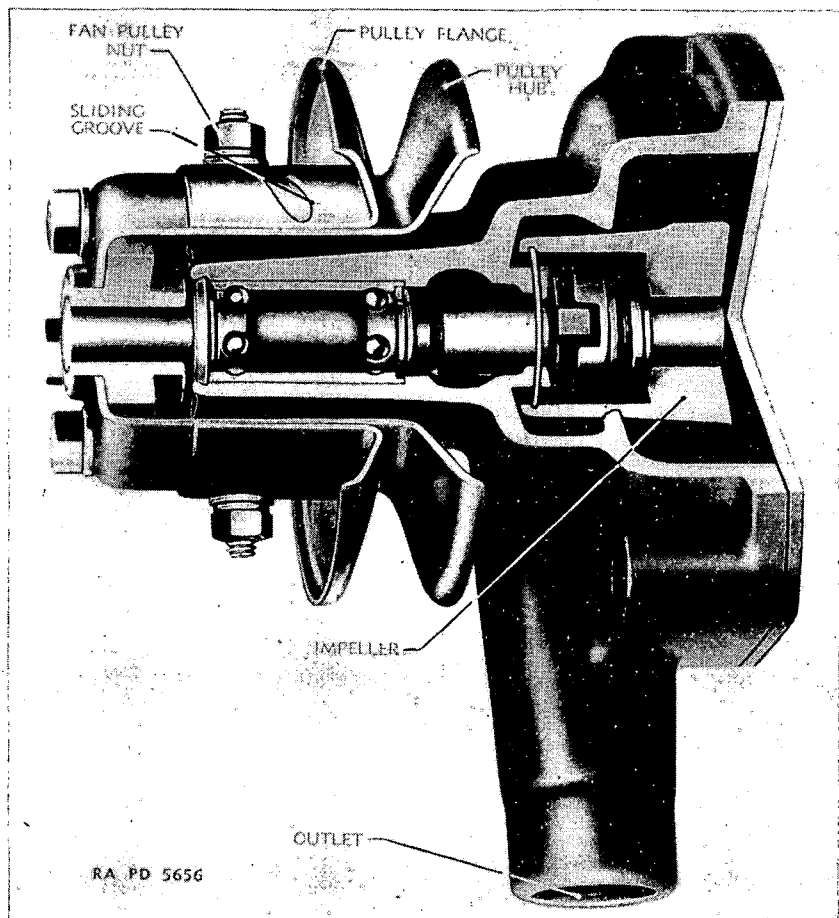
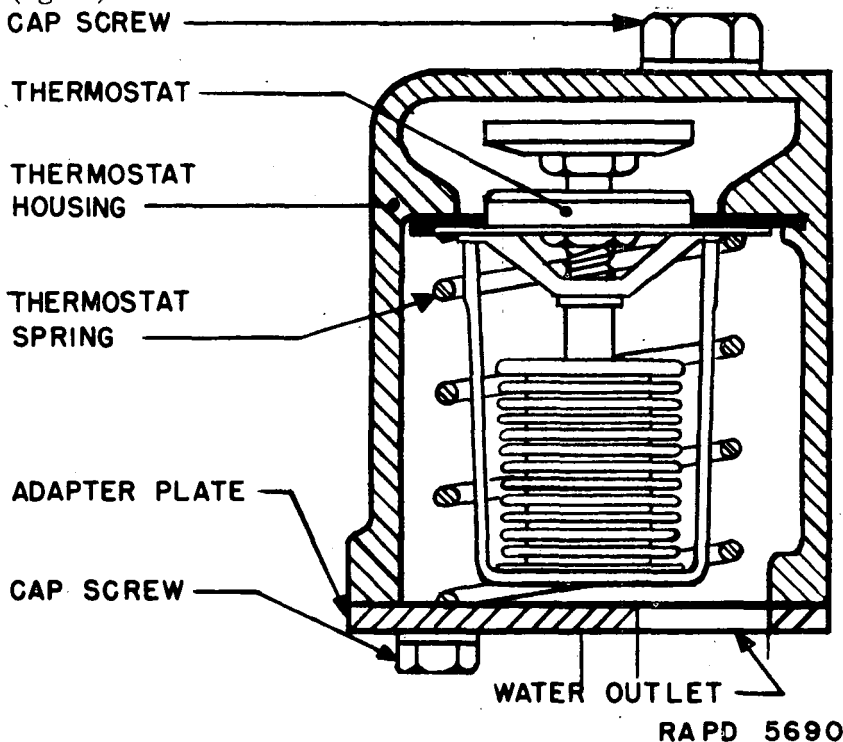

FIGURE 18.—Water pump showing fan belt tension adjustment on pump pulley—sectional view.
FIGURE 19.—Thermostat.
c. Thermostat.—A thermostat (fig. 19) is mounted in a housing on the forward part of the engine block. It functions to allow the engine to warm up quickly by limiting the amount of water circulation until the water in the engine is heated to a temperature sufficient to open the thermostat.
- (1) Loosen the two nuts on the fan pulley (fig. 18).
- (2) Grasp the pulley flange from the rear and turn it counter-clockwise; when desired tension is obtained, tighten the nuts on the pulley fan.
(3) Do not tighten the fan belt more than the amount necessary to prevent slippage.
(4) If the fan belt cannot be tightened sufficiently to prevent slippage, or if it is worn or frayed, replace it with a new belt.
b. To remove thermostat from engine.—(1) Remove the radiator hose.
(2) Remove the cap screws from the top of the thermostat housing (fig. 19).